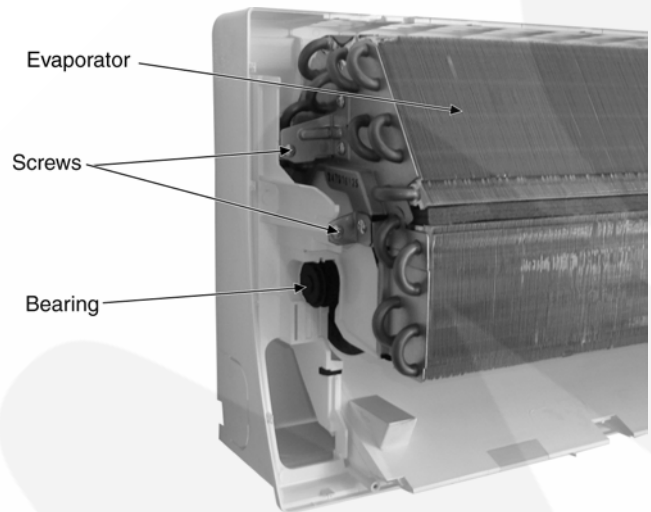

Fig. 8
- Remove the Bearing. (Fig. 8)
- Remove the screws at the left of the Evaporator. (Fig. 8)